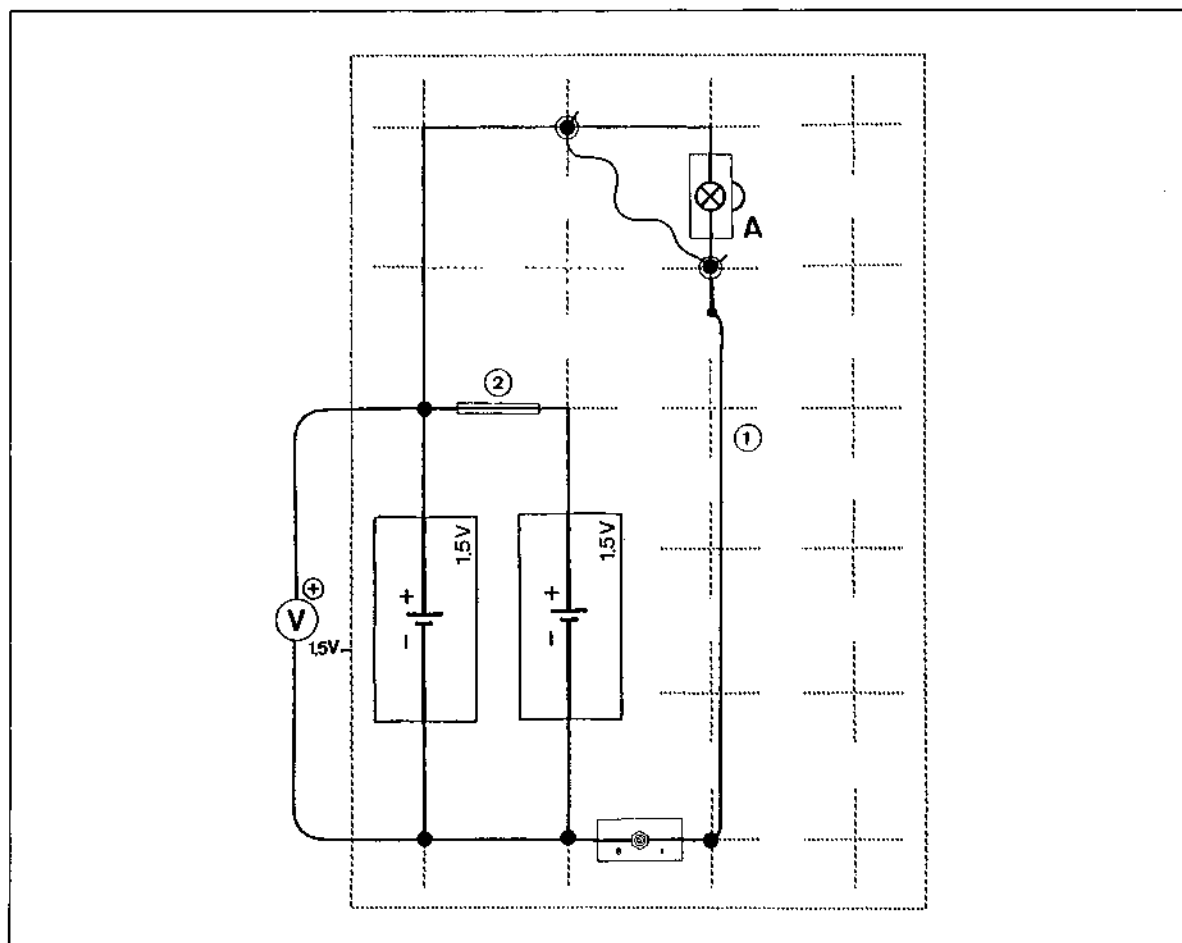

Fig. 3 Experiment setup: Monocells connected in parallel under heavy load
12. Build the circuit shown in fig. 3. The switch starts in the open position. Straighten out the 20 cm long constantan wire and connect it in parallel with the lamp. Its resistance R is low and places a heavy load on the voltage source.
Fit jumper plugs at position (2) (► Fig. 3) and use them to connect the second monocell in parallel to the first. How does this affect the brightness of the lamps, when you close the switch briefly once again?